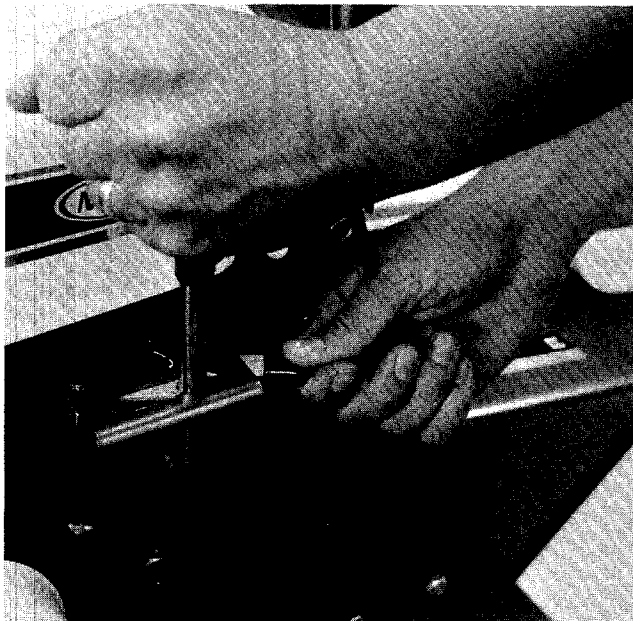

FIGURE 9. PARKING BRAKE
c. Parking Brake. To set the parking brake, pull the lever back and hold it in the locked position by moving the lock to the left. See figure 9.